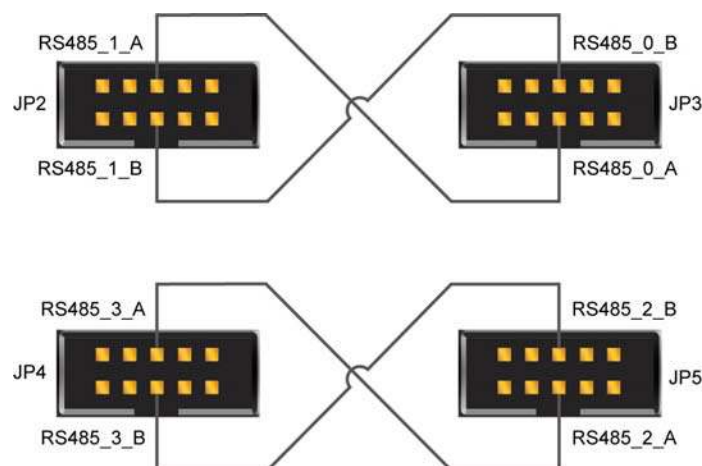

Figure 5-4 Wiring for the RS-485 loopbacks
- Establish the loopback by connecting RS-485 channel 0 with channel 1. Note profibus ports (JP3, JP5) have wires A & B swapped. **Figure 5-4** shows the wiring diagram for two loops.